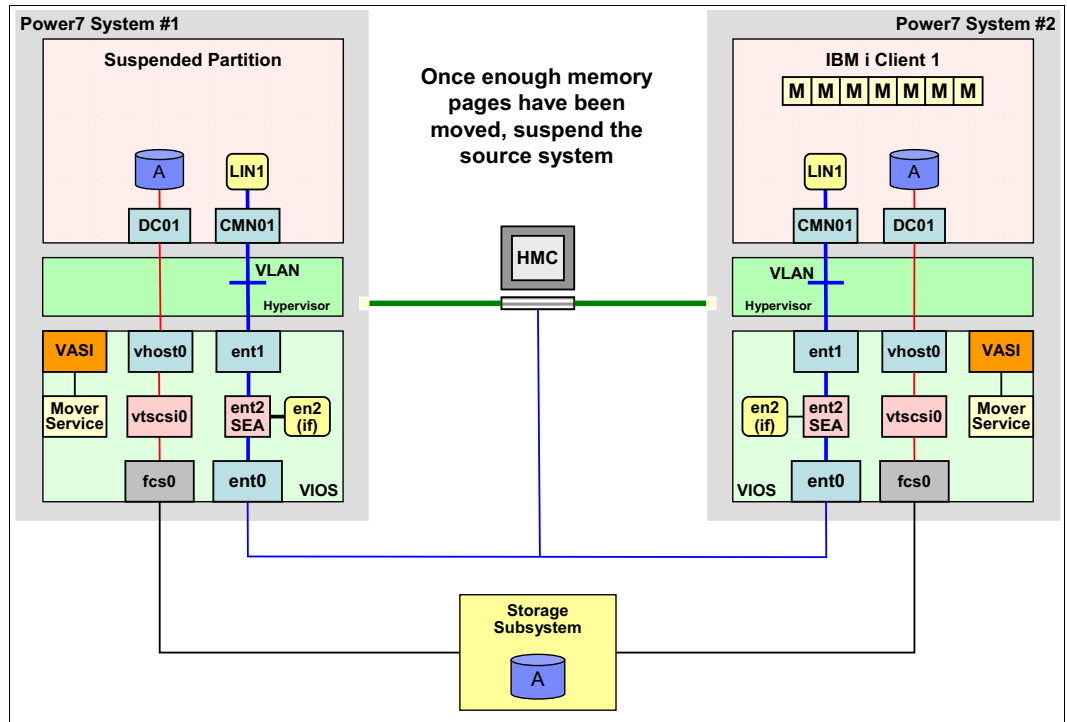

Figure 5-5 Live Partition Mobility, suspend of source system
- When the system reaches a state where only a small number of memory pages were not migrated, System #1 is suspended, as shown in Figure 5-5. From this point, no work is possible on System #1. Users notice that their transactions seem to be frozen. The remaining memory pages are then moved from System #1 to System #2.